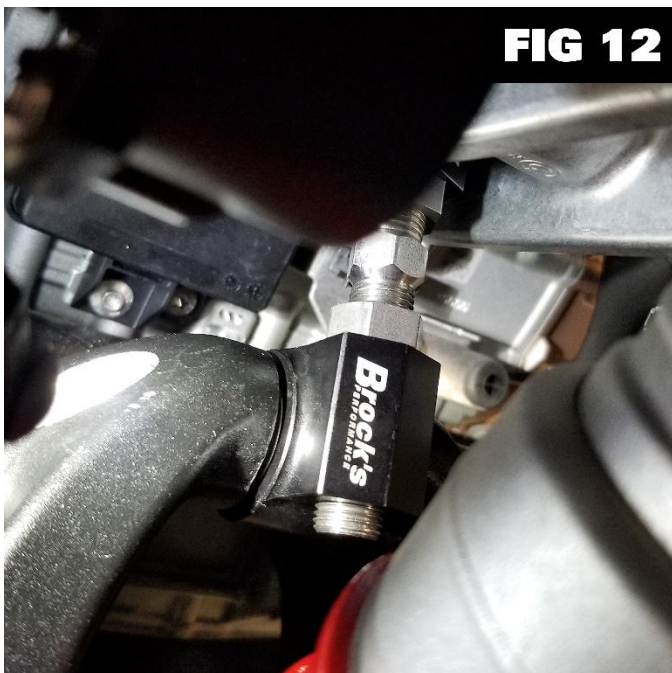

FIG 12
39. Note: Shorten center to center of link to lower bike. **(FIG 12)**